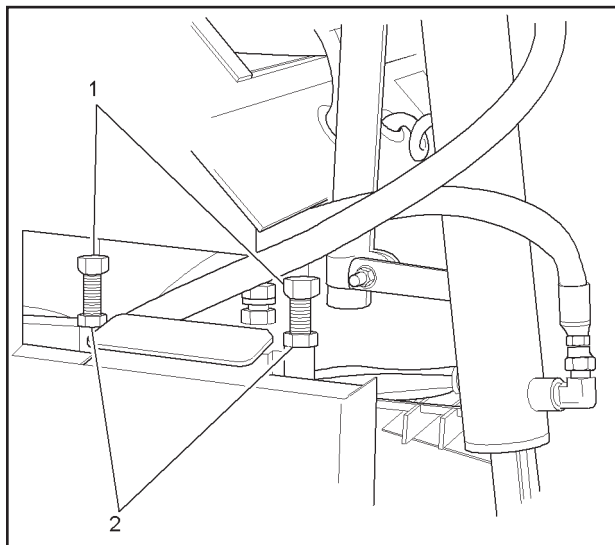

FIGURE 4-8. CONVEYOR CHAIN ADJUSTING BOLTS
3. If adjustment is necessary, loosen the locknuts (see Figure 4-8, item 2) on the chain adjuster. Turn the chain adjuster (item 1) until the whip in the drive chain disappears.
4. Retighten locknuts (item 2) when adjustment is made.